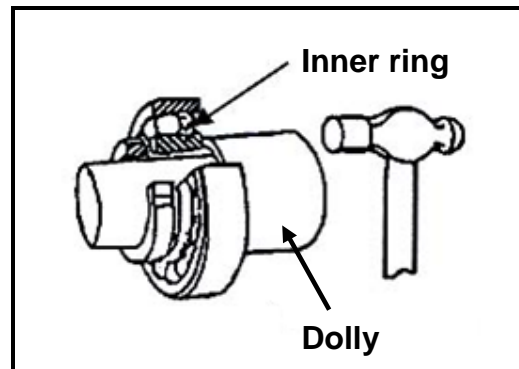

FIGURE 1.1
- 1.1 FIGURE 1.1 below shows the procedure for removing and replacing bearings. Which step in the safe work procedure does the figure show?